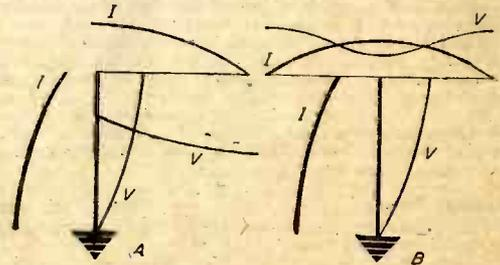

Fig. 72.—A, "Inverted L" aerial. B, "T" type aerial. Fig. 70.—(Left) A, Travelling waves; B, Standing waves; C, Current and voltage distribution.
of the aerial over, forming an inverted-L or a T-shaped system (Fig. 72 (A) and (B)). Also, because of the effect of the horizontal or "roof" portion of the aerial in concentrating capacity at the end of the vertical or "feeder" portion, the current distribution becomes almost linear and a larger current flows in the "feeder."